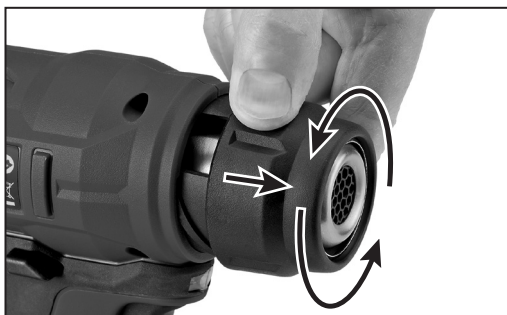

FIG. 3
6.3 ACCESSORY NOZZLE QUICK RELEASE – FIG.3